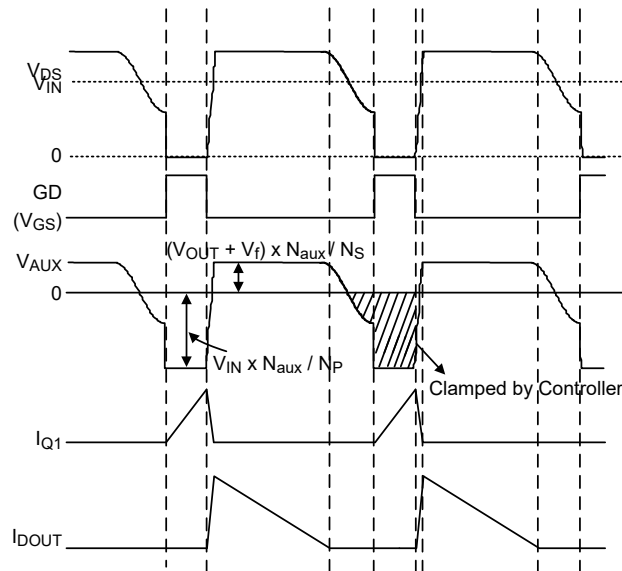

Figure 3. Key Waveforms of a Flyback Converter
The SE8232 needs no shunt regulator and opto-coupler at the secondary side to achieve the output current regulation. Figure 3 shows several key waveforms of a conventional flyback converter in Quasi-Resonant (QR) mode, in which  $V_{AUX}$  is the voltage on the auxiliary winding of the transformer.